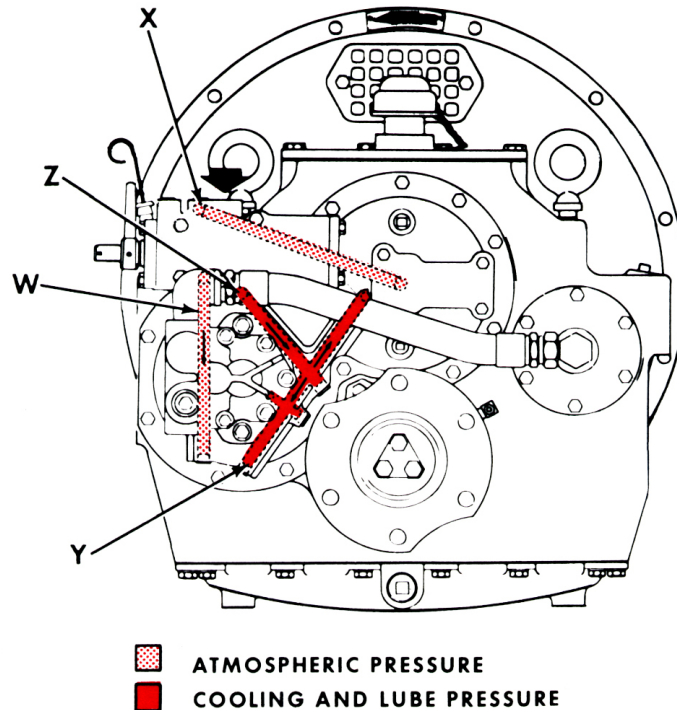

Figure 17. MG-509 Marine Gear Oil Flow – Neutral – External View.
A. Oil Flow – Neutral (Figs. 17 & 18). Some of the 20-34 psi oil in the oil return pipe cavity of the selector valve body is metered through the orifice in the return pipe piston. This oil lubricates the forward and reverse pinions, the forward and reverse pinion roller bearings, the clutch spider ball bearings, the reverse driving and driven gear roller bearings, and the reverse driving and driven gears in all positions of the selector valve. The remainder of the 20-34 psi oil in the return pipe cavity is distributed by Channel Z in the manifold which directs cooling oil to the forward clutch through an orifice in the manifold.